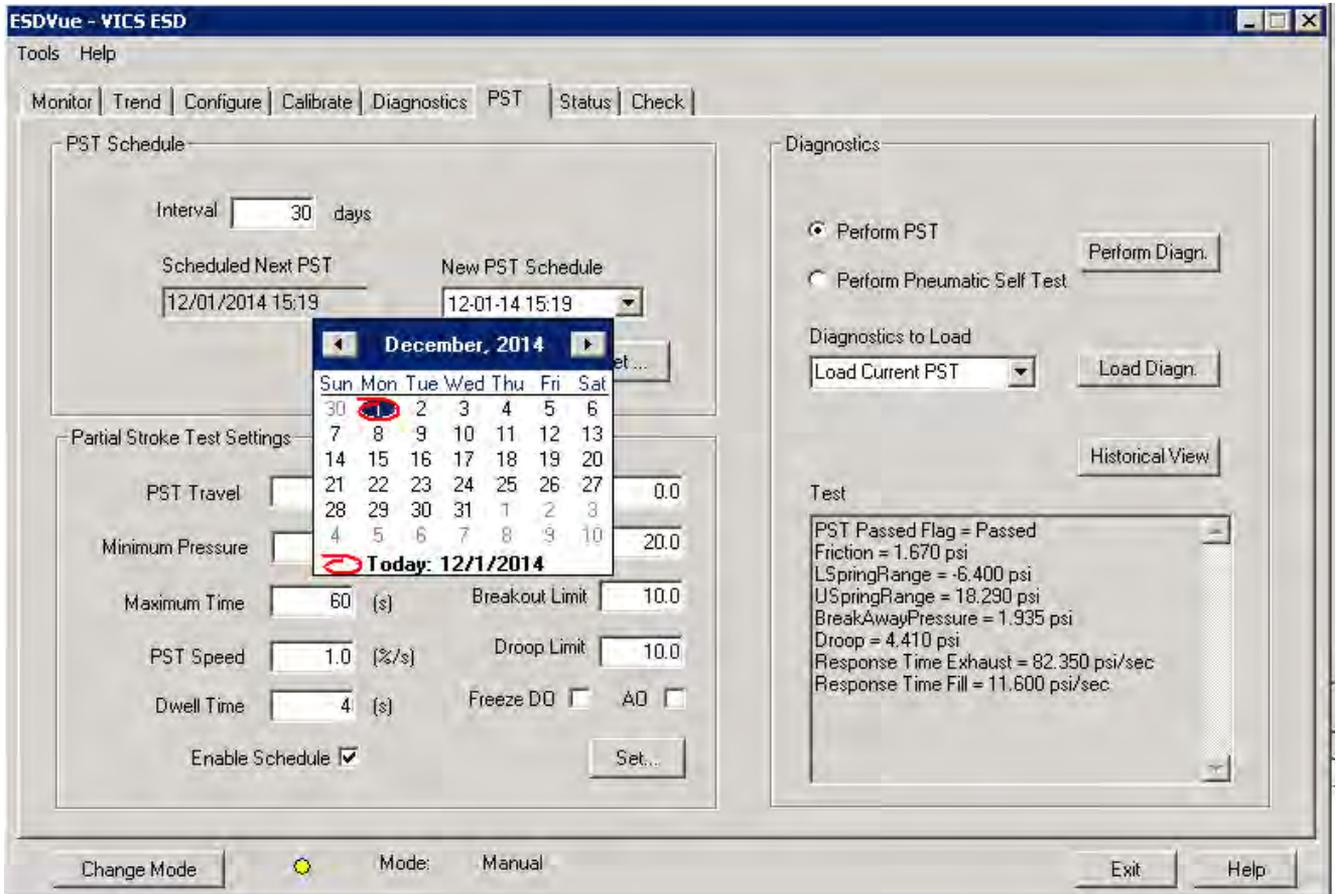

Figure 244 Selecting Calendar Feature
- a. Click in the drop down, located at the right of PST schedule date field and access the date calendar (Figure 244).